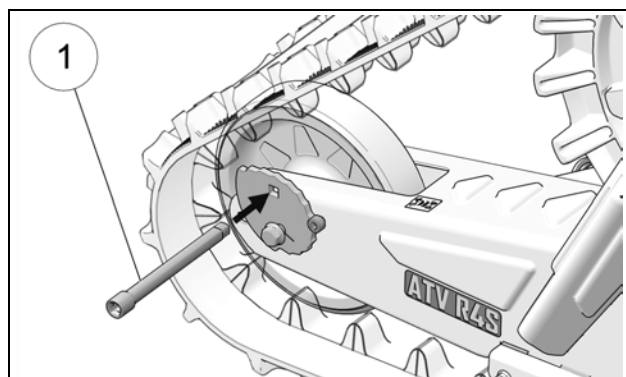

Figure 25
- Insert ratchet wrench extension with 3/8" drive (1) in tensioner cam's square hole. Figure 25.